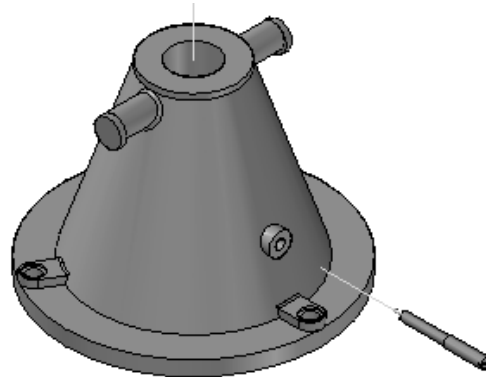

Figure 12-32 The selected part exploded in the specified direction
6. Choose the **Explode** button from the command bar; the selected part will explode in the specified direction, as shown in Figure 12-32.